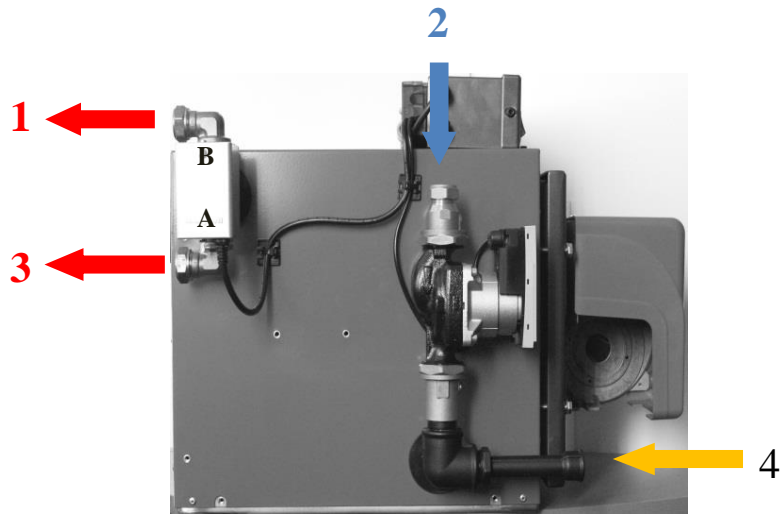

Figure 2.3
3. Install the fill and pressure gauge on nr 4 (see figure 2.3)